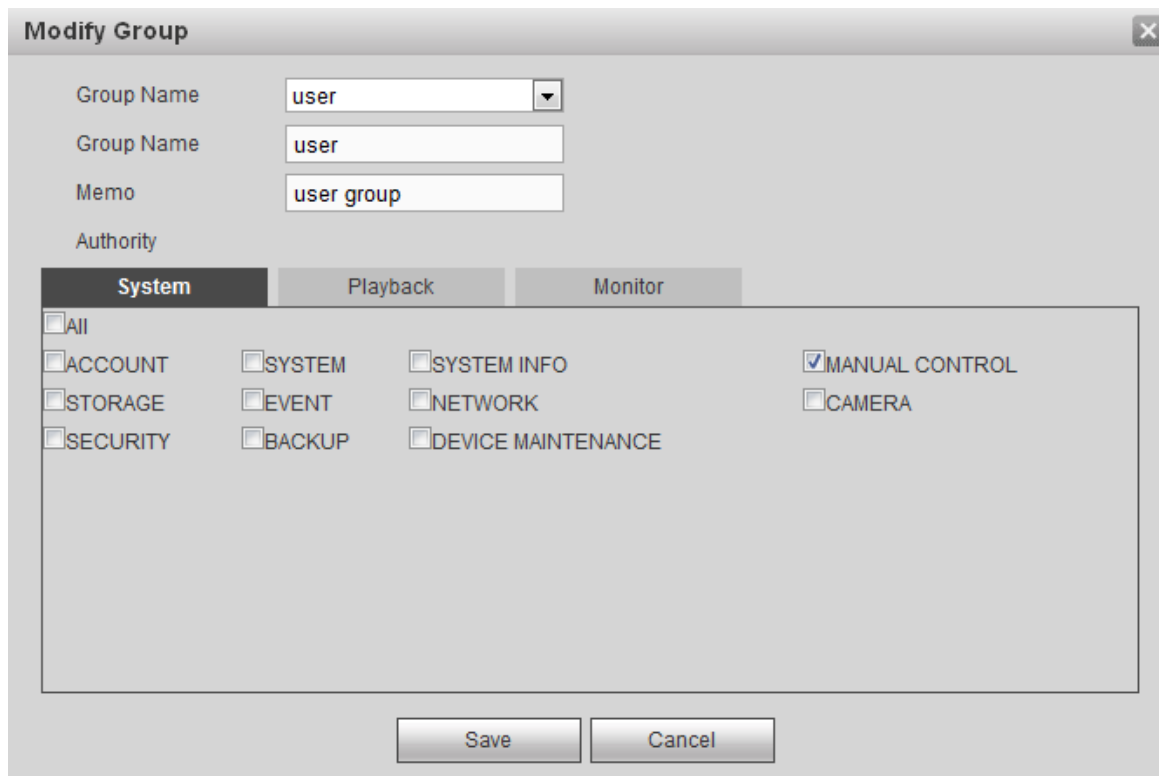

Figure 4-149
Step 1 Select a group and then click . See Figure 4-149.